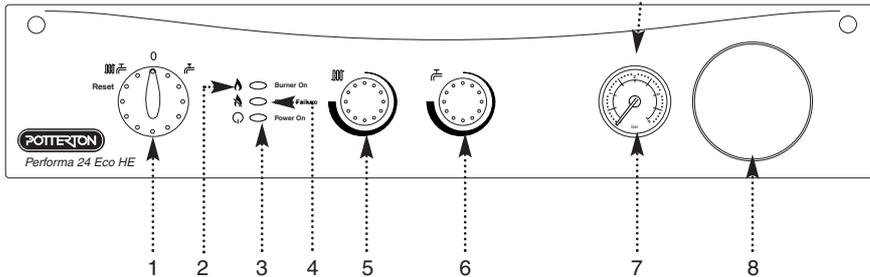

Fig. 4
3. In either position the green "power" neon (Ⓚ) will illuminate (Fig. 4).
7. The orange "burner" neon (Ⓛ) will illuminate when the boiler is operating and the main burner is on (Fig. 4).